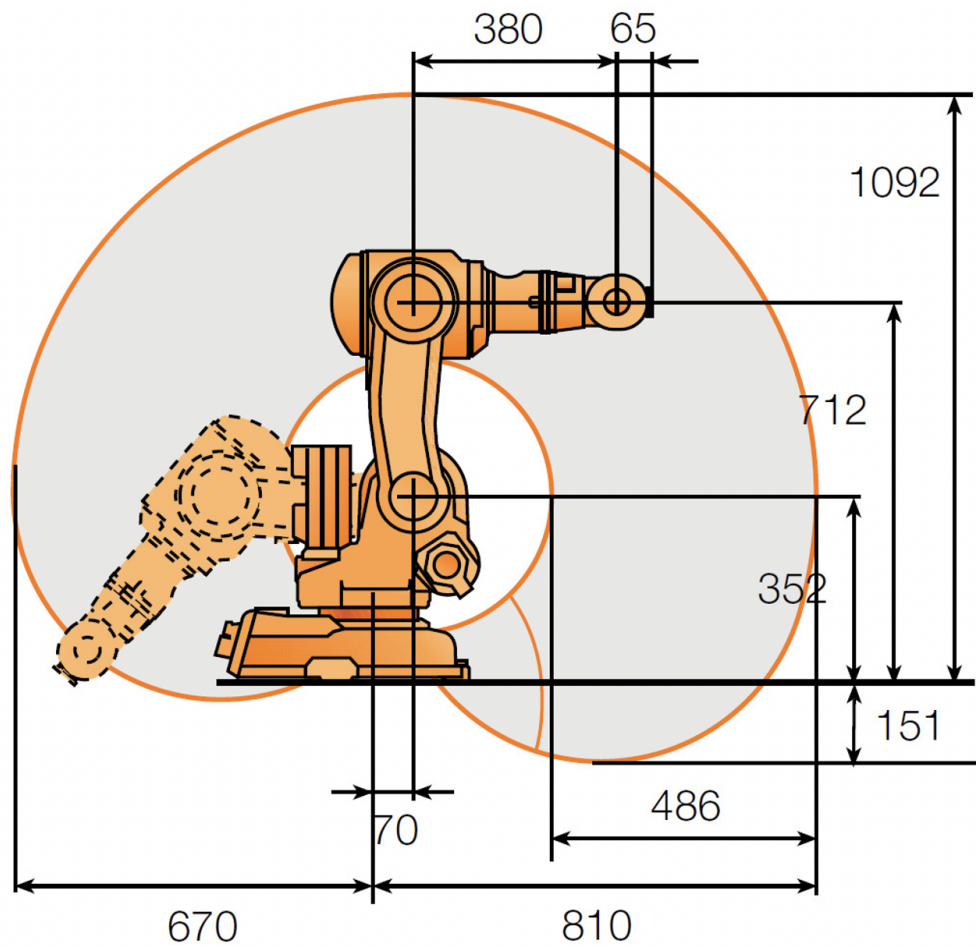

Figure 5: The IRB140 robot (the robot used in the RobotStudio Lab exercises).
- (a) Use Peter Corke's Robotics Toolbox (recommended release 10.2 or later) to set up a model of the 3 DOF robot which corresponds to the first three joints of IRB140, see Figure 5.